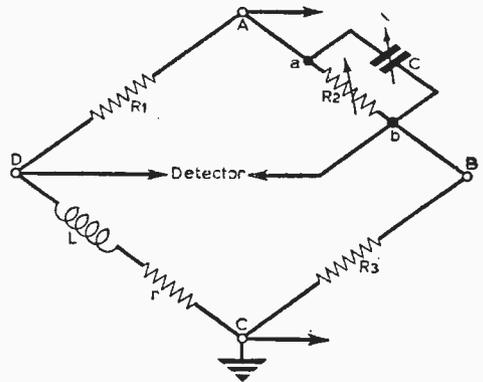

Fig. 4—The basic arrangement of the circuit of Fig. 3.
(2) All components should be connected directly to these points *only*, for reasons which will be given.
(3) Only one earth must be used, preferably applied at C, for if another earth were applied at say, the oscillator end of the earthy supply line, a loop would be formed, which could give rise to hum and other more insidious troubles.
The reason why (2) is important will be clear if we consider a bridge wired up as in Fig. 4.